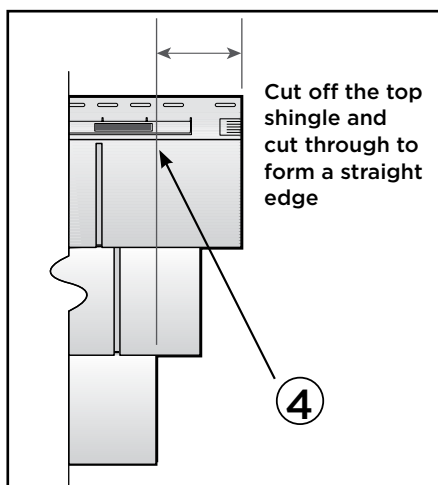

figure 1
1. Create a straight edge on the right side of the panel by cutting the top two shingles so they are flush with the bottom shingle, as shown in figure 1. Cut 4" off the top course of the panel at the 4" mark on the tape measure located on the hanger, below the nail slots.